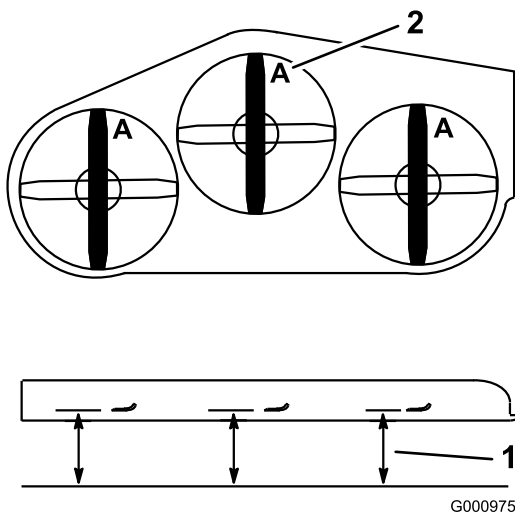

Figure 61
3. Rotate the blades until the ends face forward and backward (Figure 61). Measure from a level surface to the cutting edge, position **A**, of the blades (Figure 61). Note this dimension.